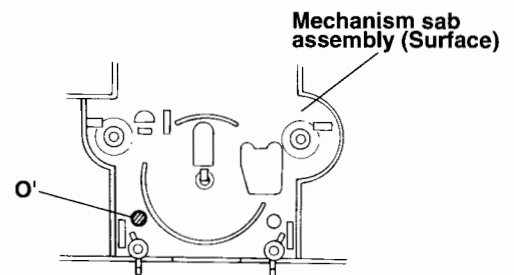

Fig.17
■ Reassembling the Control Cam (See Fig.16,Fig17,Fig.18)